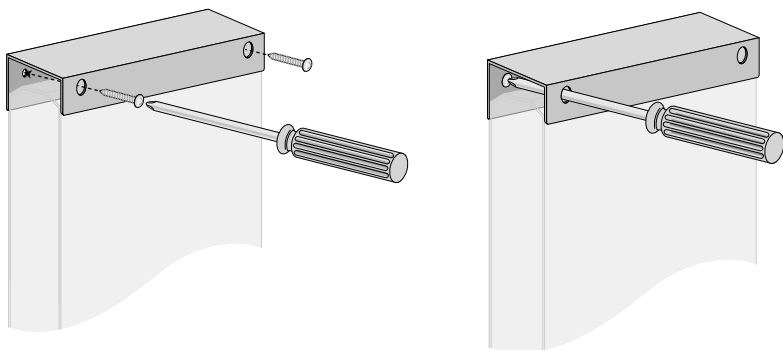

Figure 7 Attaching the Module to the Wall
6. Place the module on the wall, aligning it with the drilled holes. Secure the brackets to the wall using the supplied panhead Phillips screws. See Figure 7.